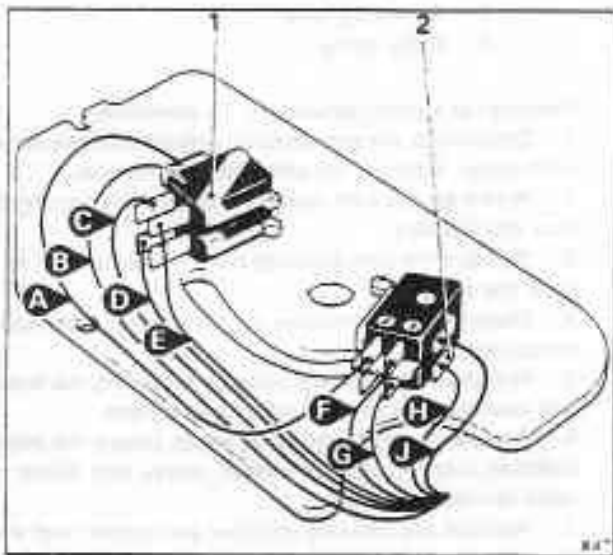

Fig. T5-3 Micro-switch connections
4. Locate the two right-hand micro-switches (see fig. T5-3).